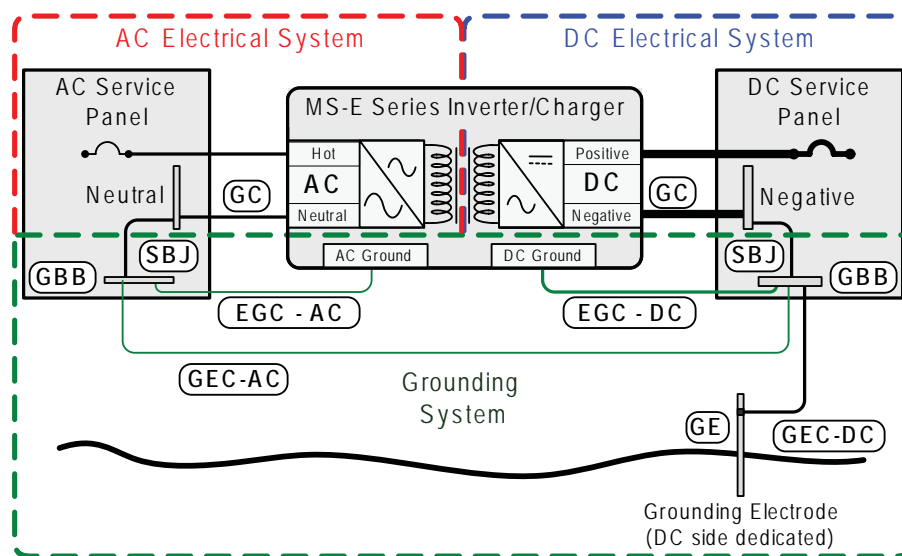

Figure 2-15, Single Connection to DC Ground Rod (Method 3)
Method 3 (Figure 2-15): The AC grounding electrode conductor (GEC-AC) is bonded to the DC ground point and the DC grounding electrode conductor (GEC-DC) is the *only* connection to the grounding electrode (GE), which must be a rod, pipe, or plate electrode.